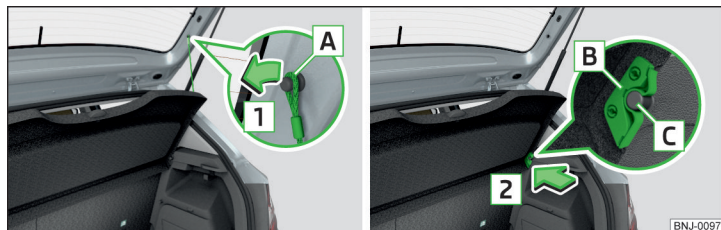

Fig. 95 Remove the luggage compartment cover
If the support straps **A** » Fig. 95 are attached to the boot lid, then opening the lid will raise the boot lid cover (hereafter only referred to as "cover").
- On both sides of the boot lid, unhook the straps **A** in direction of arrow **1** » Fig. 95.
- Position the fixtures **D** on the cover over the studs **C** » Fig. 95.
In the front area, slots **B** » Fig. 95 on page 78 on the cover must be fully engaged with the bolts on the side trim. In the back, the cover must be secured at both ends under the latching.